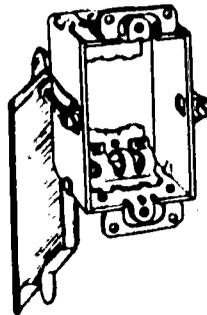

FIGURE 4
- G. Fit box into opening (Figure 4)
- E. Raise hanger about 1/2" (Figure 4)